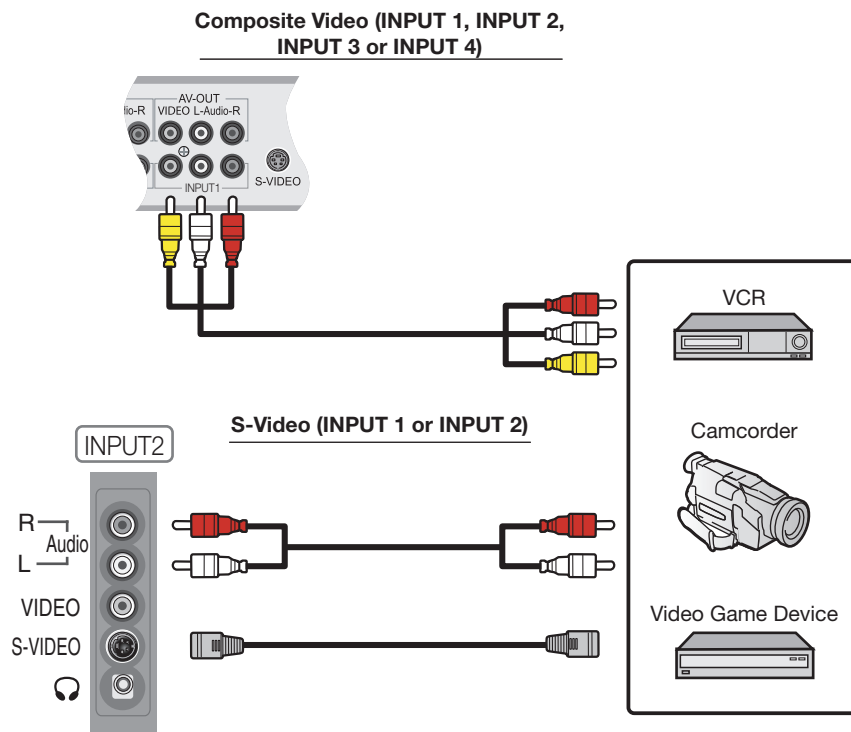

Figure 3-4. Composite and S-Video Connections
Composite/S-Video Connections: The DView has two (2) S-Video and four (4) composite video inputs for connecting a VCR, camcorder, laser disc player or DVD player; see Figure 3-4.